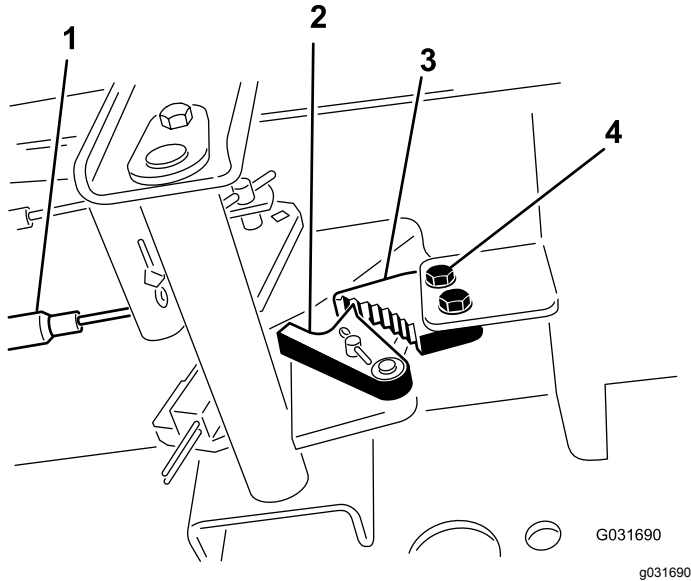

Figure 53
1. Loosen the 2 screws securing the parking brake pawl to the frame (Figure 53).
2. Press the parking brake pedal forward until the brake detent completely engages on the brake pawl (Figure 53).